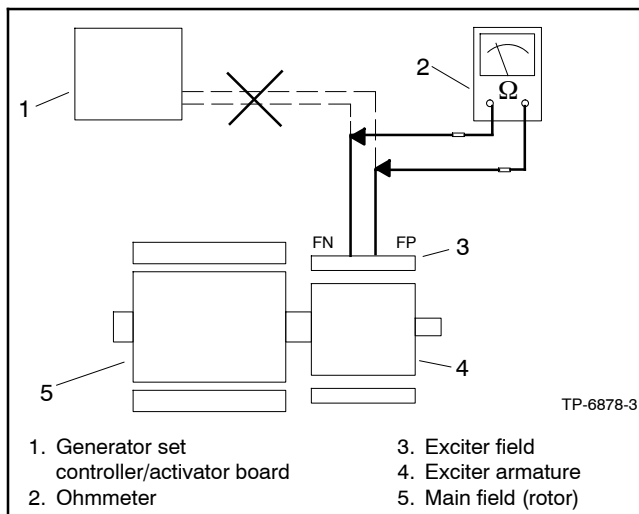

Figure 3-3 Exciter Field Resistance Test
4. Check the exciter field resistance by connecting an ohmmeter across exciter field FN and FP leads. See Figure 3-3. See Section 1, Specifications, for the resistance value of a cold exciter field.